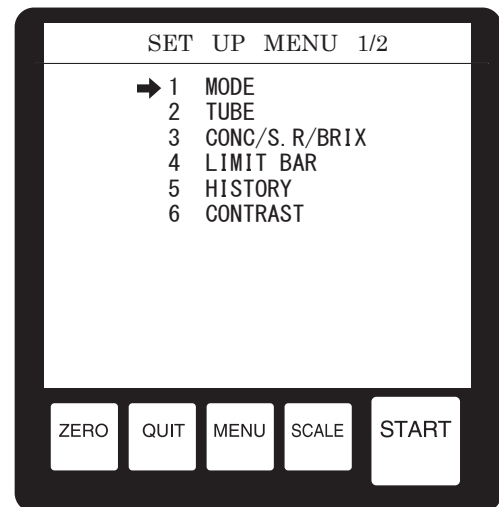

Fig.20-1
- Press the MENU key twice when a measurement value screen or the ZERO SET END screen is on the display panel. The screen shown in Fig.20-1 will be displayed on the display panel.